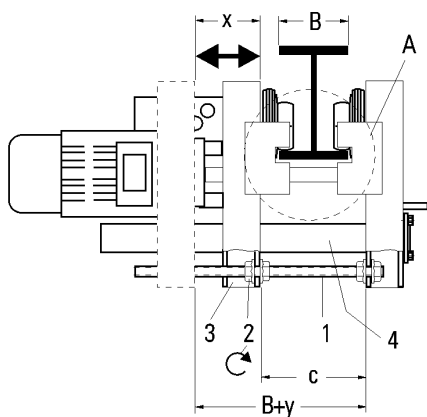

Figure 3-6 Trolley Hoist Clearances 2 Ton – 10 Ton
- 2) Before attempting to install the trolley hoist, verify beam width and the “c” dimension (see Figure 3-6). See Table 3-1 for dimensions respective values. If adjustment is not necessary, move onto section Section 3.4.1 \(step 8\). If adjustment is necessary move onto step 3, below.
- a. Working on the trolley motor side of the hoist, (the side closest to the large rectangular counter weights), loosen the nuts (2) on the two threaded shafts (1) of the trolley hoist. **DO NOT** loosen the nuts closest to the hoist. **NEVER** move the hoist side of the trolley. (See Figure 3-6 and Figure 3-11)
- b. With the nuts (2) loosened enough to allow the trolley frame to move, slide the trolley motor side of the hoist outward or inward to meet the desired flange width. Tighten nuts (2) with a torque wrench, to 155 ft lbs (210 Nm). (See Figure 3-6 and Figure 3-11.)
- b. Before attempting to install the trolley hoist, verify beam width and the “c” dimension (see Figure 3-6). See Table 3-1 for dimensions respective values. Adjust flange width if necessary. (See Section 3.4.1 Step 6)